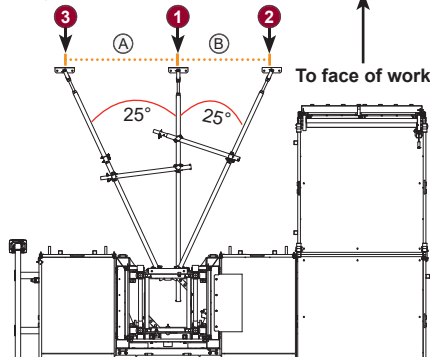
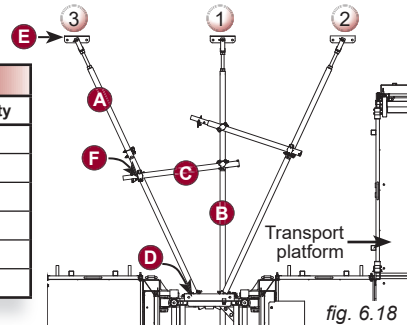

fig. 6.16
fig. 6.18
- 3- Anchor the middle wall tie bracket to the building structure in the appropriate position ("1" in fig. 6.18), taking into account that the perpendicular mast tie must be installed on the tube inside the mast tie frame that is closest to the transport platform.
- 4- Following the order of installation, anchor the other two wall tie brackets ("2" and "3" in fig. 6.18) at the angle of installation shown in fig. 6.16, p. 82.
- 11- Repeat steps 5 through 10 for the mast tie that is closest to the transport platform (shown as "2" in fig. 6.18, p. 83).